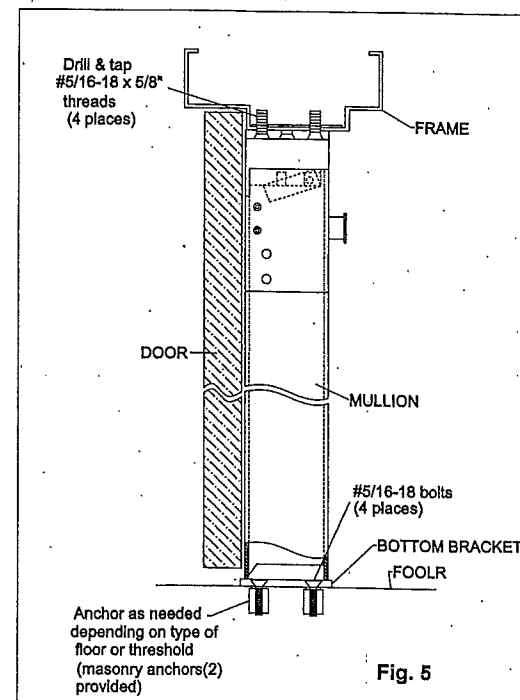

Fig. 5
2. Place the mullion tube first into the bottom bracket, then into the top bracket. Close the door again. Move the bottom bracket at floor slightly and butt the mullion to the doors. Align centering notches on the bracket with the mark that you made in Step 1-1. Mark and drill four (4) holes on the floor for anchors. (For Non-Fire Rated Devices: 1/2" x 1" deep. For Fire Rated Devices: 1/2" x 1-3/4" deep.) Tighten the bottom bracket to the floor with the anchors and bolts provided. (See Fig. 5)